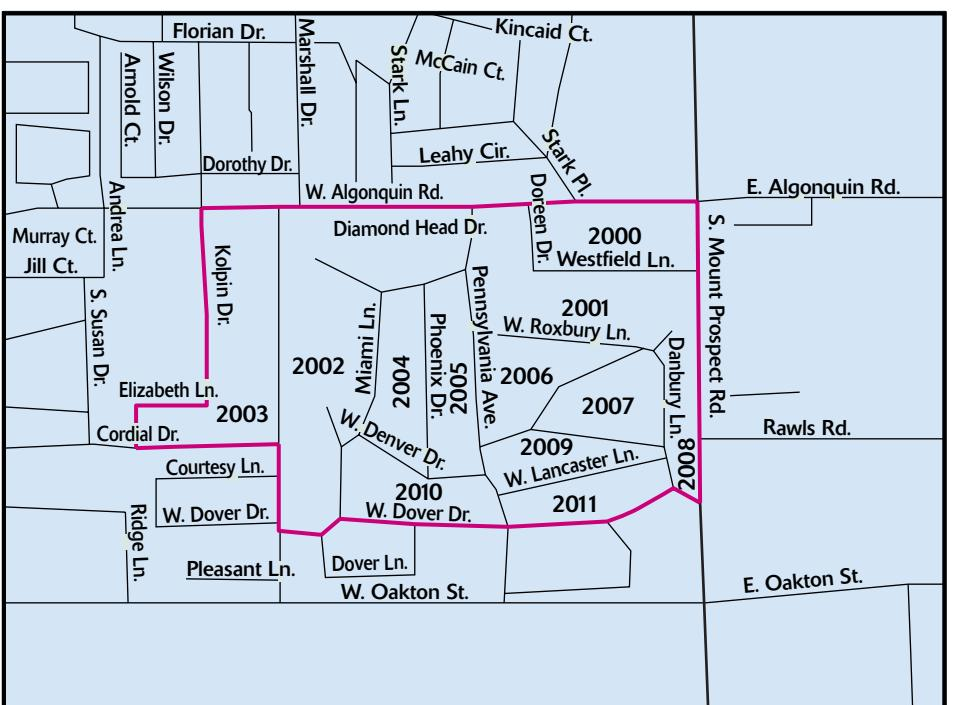

FIGURE 3.2 Census blocks in Cook County, Illinois. The outlined area is a block group. (From factfinder.census.gov.)
- 3.21 Sampling from a census tract. The Census Bureau divides the entire country into “census tracts” that contain about 4000 people. Each tract is in turn divided into small “blocks,” which in urban areas are bounded by local streets. An SRS of blocks from a census tract is often the next-to-last stage in a multistage sample. Figure 3.2 shows part of census tract 8051.12, in Cook County, Illinois, west of Chicago. The 44 blocks in this tract are divided into three “block groups.” Group 1 contains 6 blocks numbered 1000 to 1005; group 2 (outlined in Figure 3.2) contains 12 blocks numbered 2000 to 2011; group 3 contains 26 blocks numbered 3000 to 3025. Use Table B, beginning at line 125, to choose an SRS of 5 of the 44 blocks in this census tract. Explain carefully how you labeled the blocks.